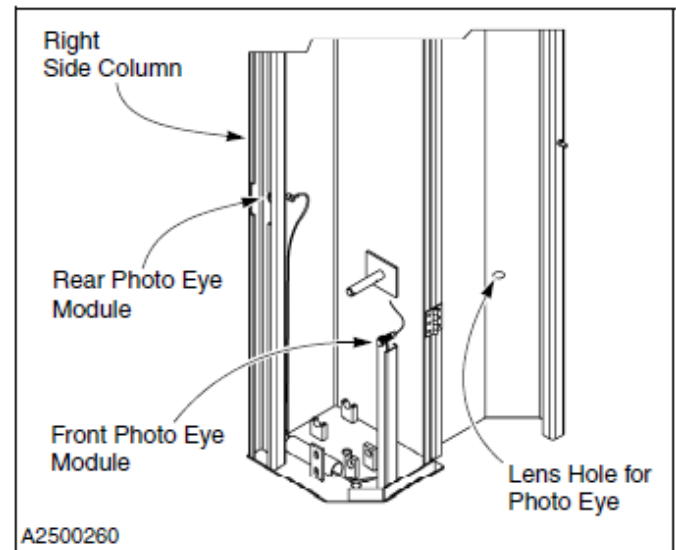

Figure 44
3. Open the side column covers and locate the front set of photo eye modules. At the factory, they were mounted on a tall, heavy-duty bracket that is located in the front, inside corner of each side column. (See Figure 44)